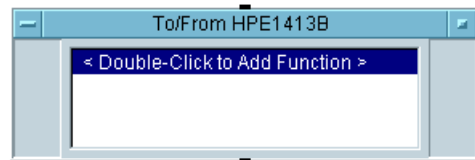

Figure 7-1. To/From VXIplug&play Object
3. Place the outline of the To/From *VXIplug&play* object where you want it in the work area and click the mouse button. The object appears as shown in Figure 7-1.